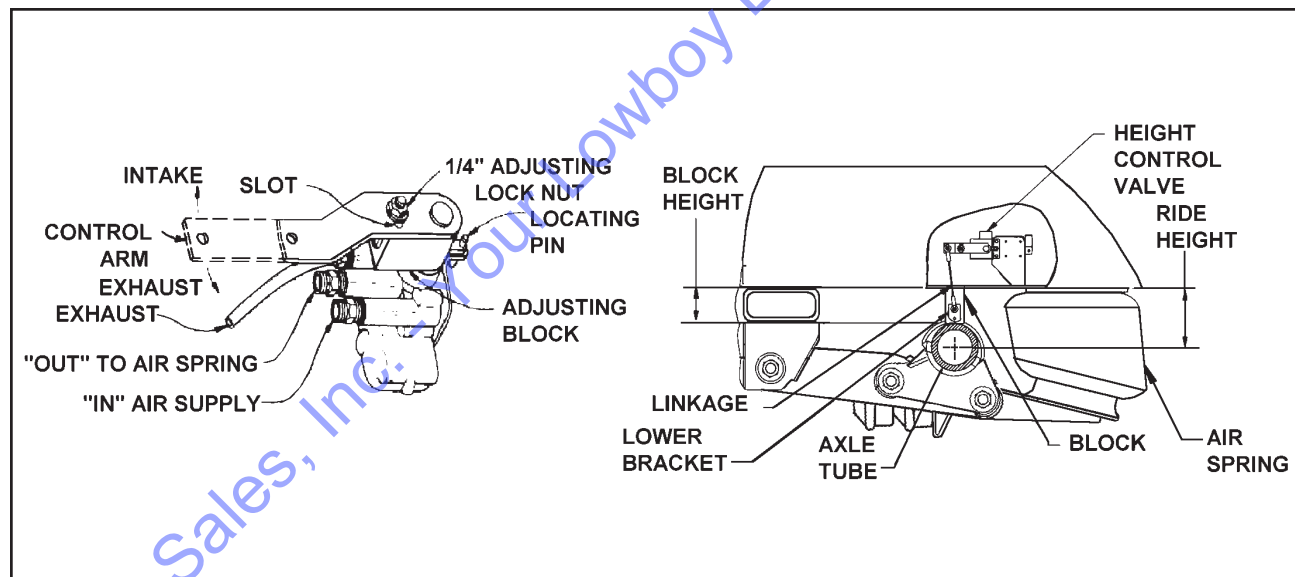

Figure 4-11 Air Ride Height Adjustment
4-7.3 Air Ride Height Adjustment. (See Figure 4-11 for parts identification).
- b. Disconnect linkage at the control arm and raise control arm to the "up" position, raising the trailer until a block can be placed between axle tube and undercarriage frame (See Figure 4-11).
- f. Loosen the 1/4" adjusting lock nut located on the adjusting block, allowing the control arm to move approximately 1 inch. Move the adjusting block until holes align, then insert locating pin. (See Figure 4-11).